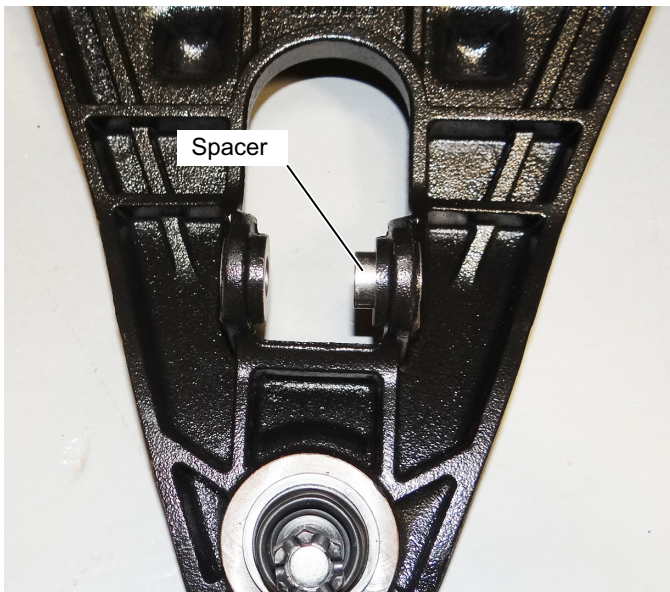

Fig. 14 Upper Control Arm Spacer
5. Remove the nut (33), spacer (39) and bolt (46) that secure the bottom of the strut assembly to the lower control arm (See Fig. 1) (Ref. Fig. 14).